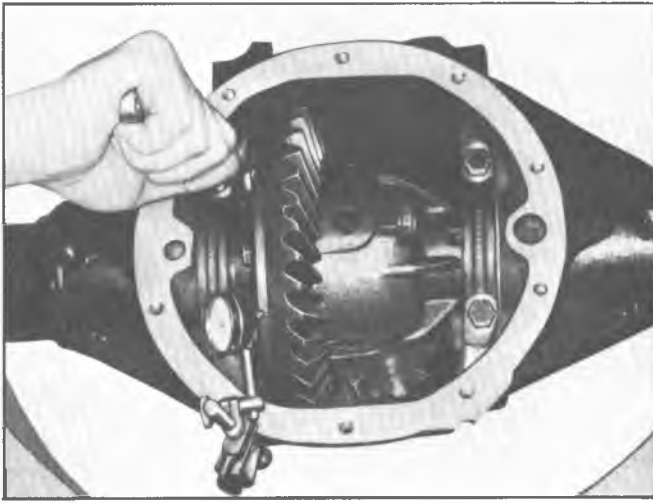

Fig. 11B—Checking Ring Gear Runout
14. If variation in backlash readings exceeds .002"; measure ring gear and case runout as shown in Figure 11B. Gear runout should not exceed .003"; should runout exceed this limit, check ring gear and case for deformation and/or foreign matter between case and gear.